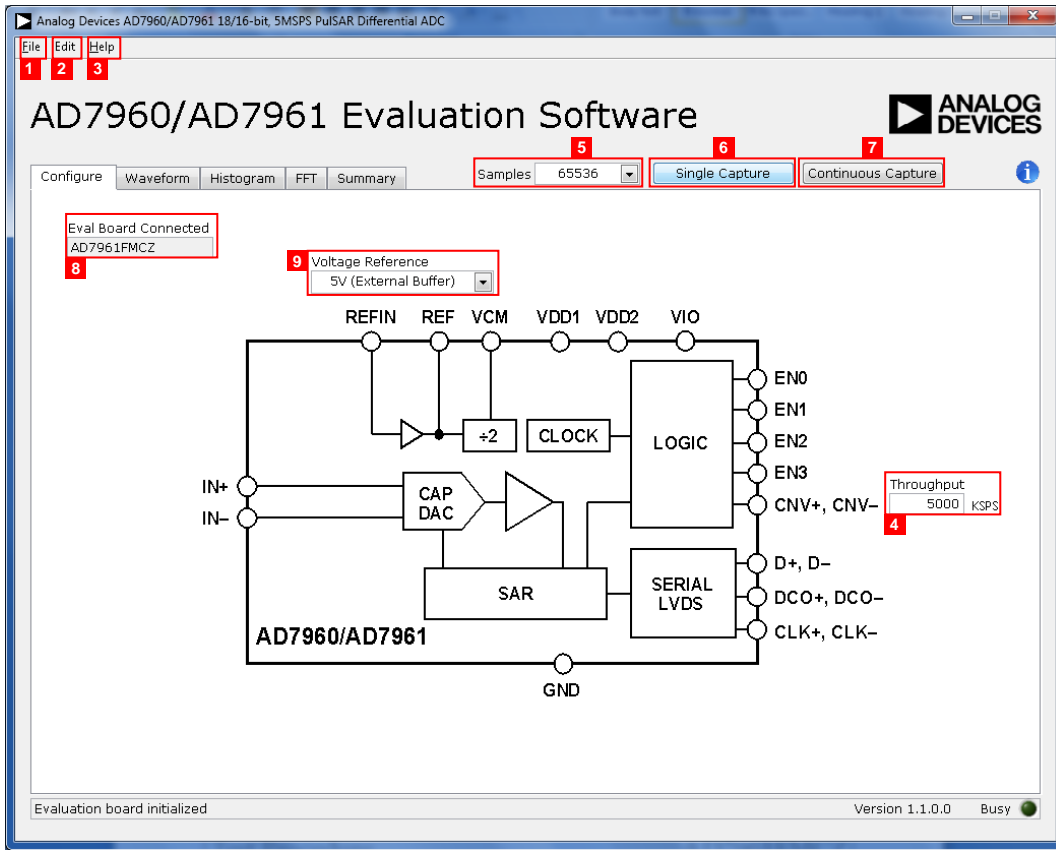

Figure 19. Setup Screen
1. From the **Start** menu, select **Programs>Analog Devices>AD7960_61 Evaluation Software**. The main window of the software then displays (see Figure 19). If the evaluation system is not connected to the USB port via the EVAL-SDP-CH1Z when the software is launched, a connectivity error displays (see Figure 17).
This section describes the full software operation and all windows that appear. When the software is launched, the panel opens and the software searches for hardware connected to the PC. The user software panel launches as shown in Figure 19. The labels listed in this section correspond to the numbered labels in Figure 19.
The **File** menu, labeled 1 in Figure 19, offers the choice to